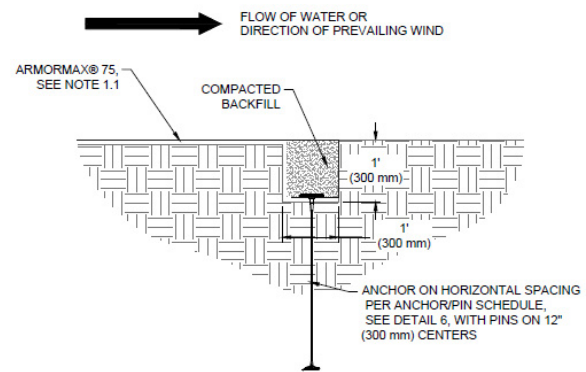

Figure 3: Terminal Channel (TC) Figure Trench
5. Excavate a Terminal Channel (TC) trench a minimum of 12 in x 12 in (300 mm x 300 mm) across the channel at the upstream end of the project (Figure 3). Deeper TC trench and/or hard armoring may be required for channels that have the potential for scour.